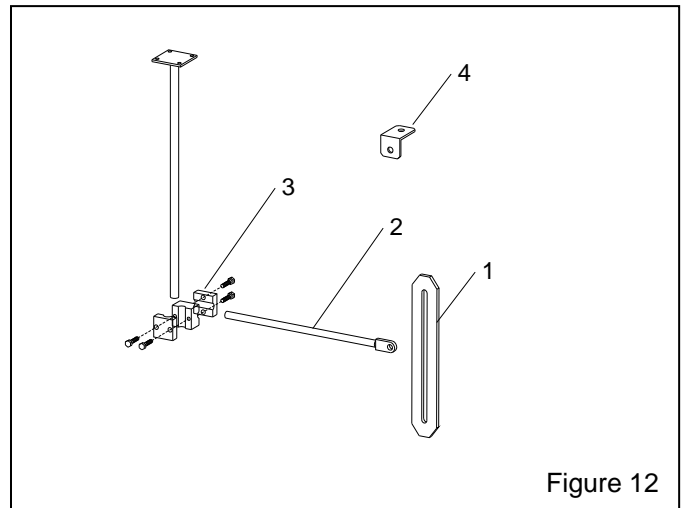

Figure 12
10.3 Gun Mount Assembly, Figure 12